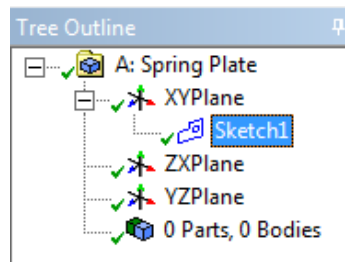

Figure 3-57 The Tree Outline with *Sketch1* added to it
- Choose the **New Sketch** tool from the **Active Plane/Sketch** toolbar; the new entry with the name **Sketch1** is added under the **XYPlane** node in the Tree Outline, refer to Figure 3-57.